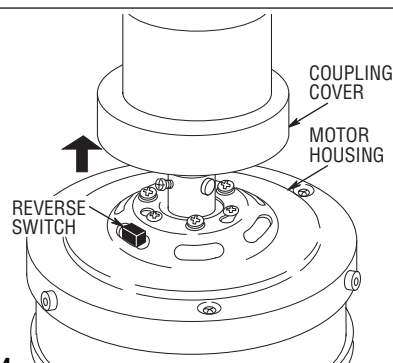

Figure 24
3. If airflow is desired in the opposite direction, turn the fan off and wait for the blades to stop turning. Then slide the coupling cover up, push the reversing switch in opposite direction (Figure 24) Slide coupling cover down to rest on motor housing and turn the fan on again. The blades will turn in the opposite direction and reverse the airflow.